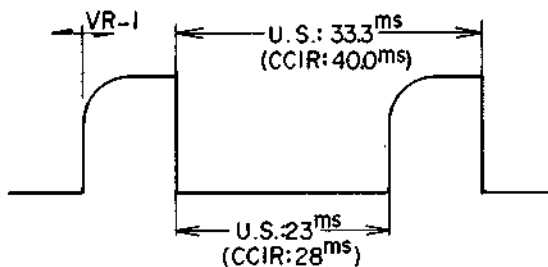

Fig. 4
- (1) Connect an Oscilloscope to Video In Terminal of Servo P.C. Board (VC-5013) and confirm that the Video Signal Amplitude is more than 1.2 Vp-p. (If amplitude is less than 1.2 Vp-p, check video input signal).
- (2) Connect Oscilloscope to Test Point TP-1. Adjust VR-1 (50 kΩB) to obtain waveform as shown in Fig. 4.